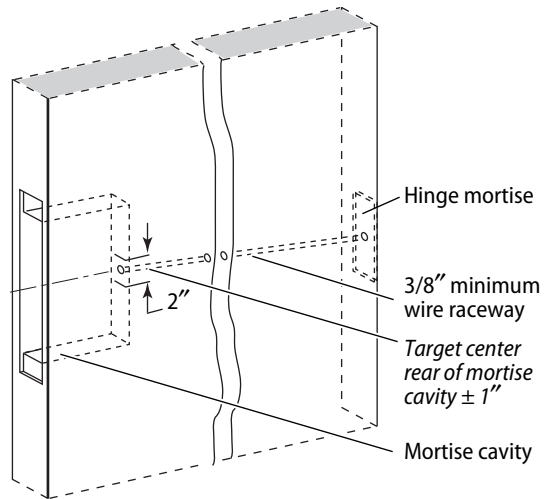

Figure 1 Preparing the wire chase through the door
- 2 Drill a minimum 3/8" diameter wire raceway through the door, from the center hinge to the center back of the mortise cavity,  $\pm 1"$  vertically (a 2" range) as shown in Figure 1.